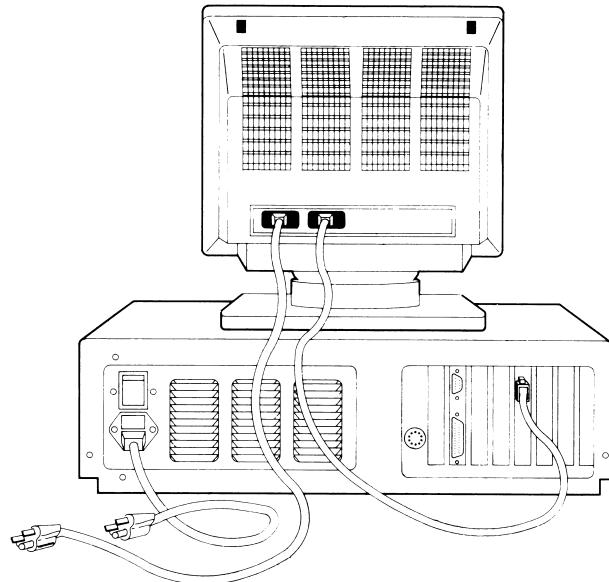

Figure 7-1. Rear View of a COMPAQ DESKPRO 286 Personal Computer with a Video Graphics Color Monitor Installed.
3. Disconnect the monitor power cable and the monitor signal cable (Figures 7-1, 7-2, and 7-3).